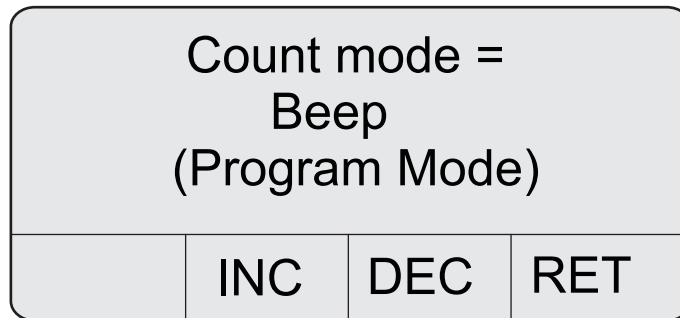

Figure 23 Count mode
2. Press **2 (NXT)** to display the Count mode screen (refer to Figure 23).